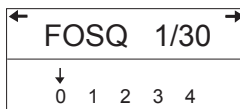

FIGURE 4–9 FOSQ SCREEN 1 OF 30
2. From the Standby screen, press the – button to first FOSQ screen, shown in Figure 4–9.